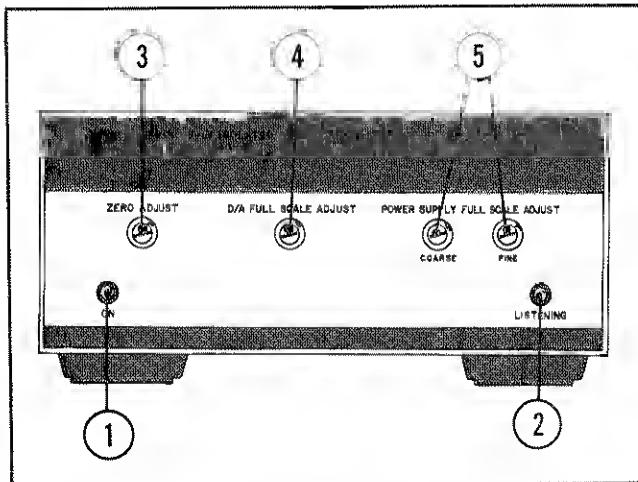

Figure 3-1. 59501A Front Panel
3-7 The 59501A front panel contains a power on indicator, a status indicator and four controls (screwdriver adjustments) as shown in Figure 3-1.
3-8 The power on (ON) indicator **①** (Figure 3-1) lights and the 59501A's internal supply voltages (+15V, -15V, V_{dd}) are present when the line cord is plugged-in.